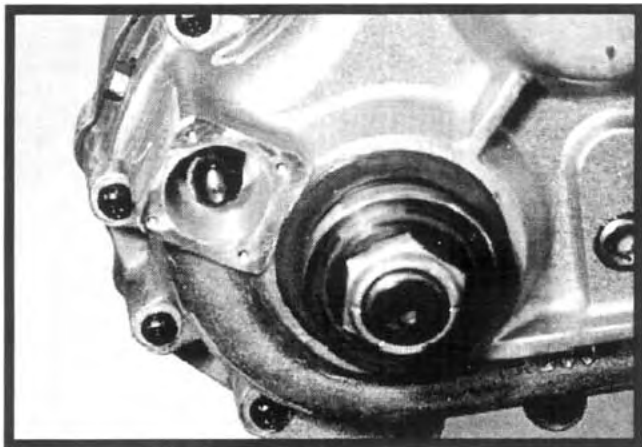

Figure 6.45
28. Assemble the front output shift cylinder as follows: Install a new piston-to-shaft O-ring over the threaded portion of the shifter shaft. Slip the spring over the shaft. Insert the nylon stop ring into the cylinder bore. See Figure 6.45.